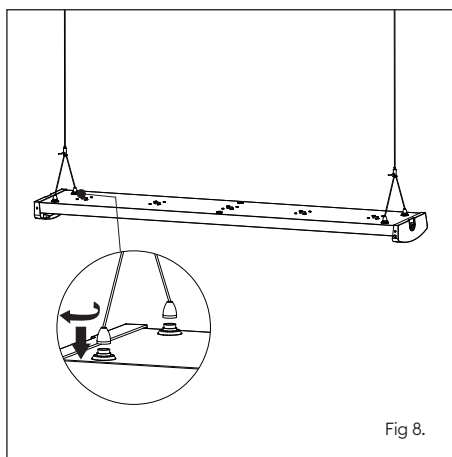
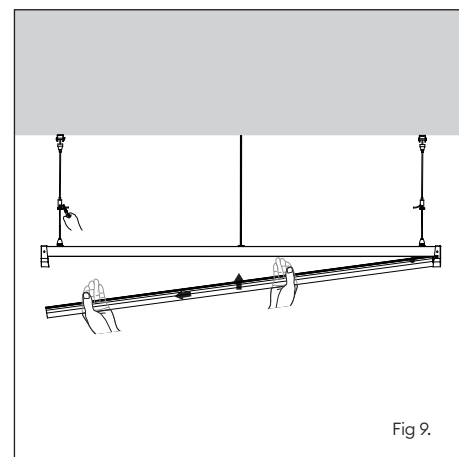

Fig 8.
Fig 9.
- Attach suspension cables to the luminaire (Fig 8). If needed adjust each side to ensure luminaire is horizontal (Fig 9).